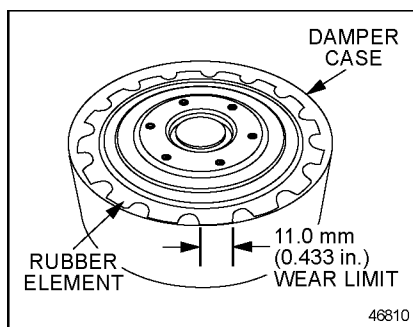

Figure 35 REPTO Torsional Damper
- [b] Inspect the rubber element teeth for wear. If the teeth are worn to less than one-half of the new part length (11.0 mm [0.433 in.]), replace the torsional damper. See Figure 35.